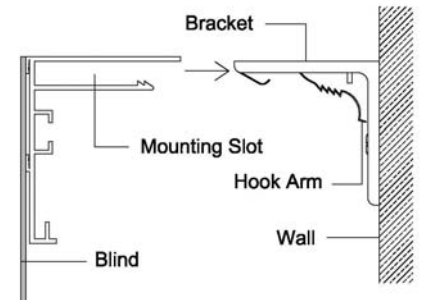

Figure 14
2. Install a number of brackets on the wall at the same height (usually each bracket is 500 to 600mm apart). Level the headrail and push it into the brackets such that the brackets are inserted into the mounting slot of the headrail (Refer to Figure 14). The headrail must be pushed until it cannot be pushed any further.